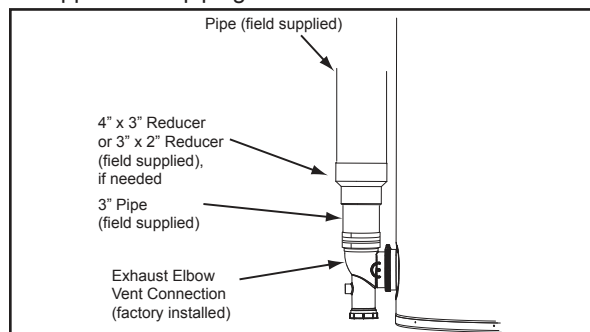

Figure 17. Vent (Exhaust) Connection
11. If installing two- or four-inch pipe, transition to three-inch pipe at the exhaust elbow on the water heater as shown in *Figure 17* (page 24). The field installed three-inch pipe between the exhaust elbow and the reducer coupling should be 18 inches (45 cm) or less in length.
12. If installing two- or four-inch vent pipe, transition to three-inch pipe at the exhaust elbow on the water heater as shown in **Figure 17** (page 24). The field installed three-inch pipe between the exhaust elbow and the reducer coupling should be 18 inches (45 cm) or less in length.